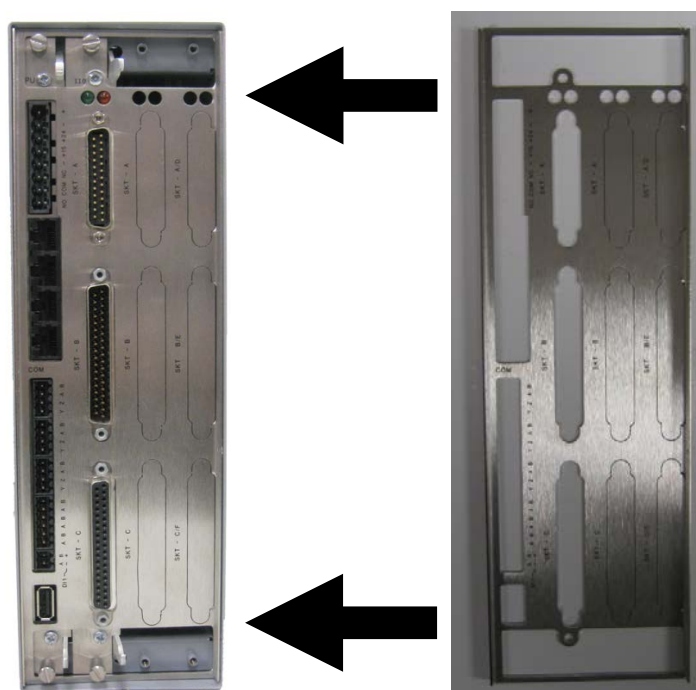

Figure 2-12. Security Backplate in Place
2. Place the security backplate over the modules already installed in the S600+ and secure the backplate to the I/O module using the two screws you removed in step 1 (see *Figure 2-12*).
Note: In actual operation, the two right-most slots on the S600+ shown in *Figure 2-12* would either contain modules or would be covered by blanking plates.